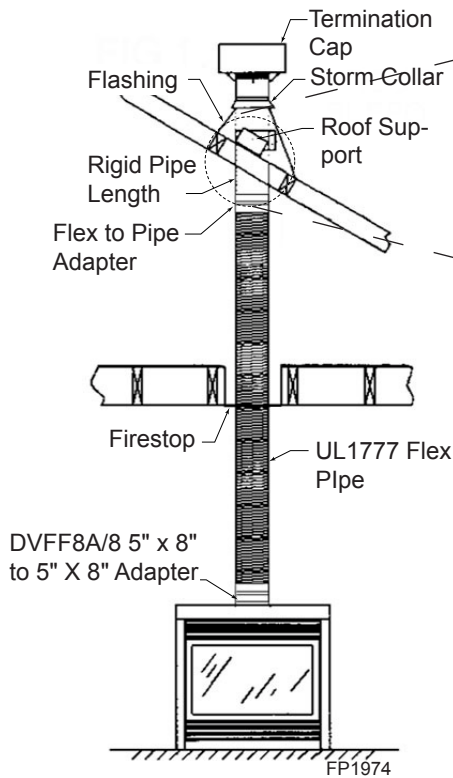

Figure 38 - Typical Vertical Flex Vent Installation
- A. Installing the inner flex adapter and pipe. *Figure 38*
2. Install firestop spacers, *Figure 38*, when penetrating ceiling, attic spaces, or walls.